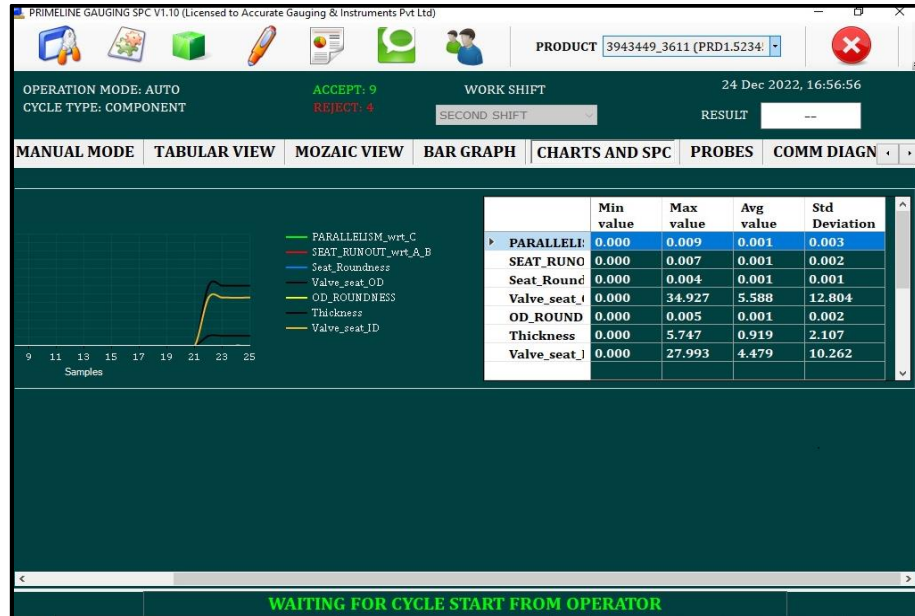

Figure 7
- Click on the Charts and SPC tab. The following window can be seen in figure 7. Statistical Process Control (SPC) is an industry-standard methodology for measuring and controlling quality during manufacturing.